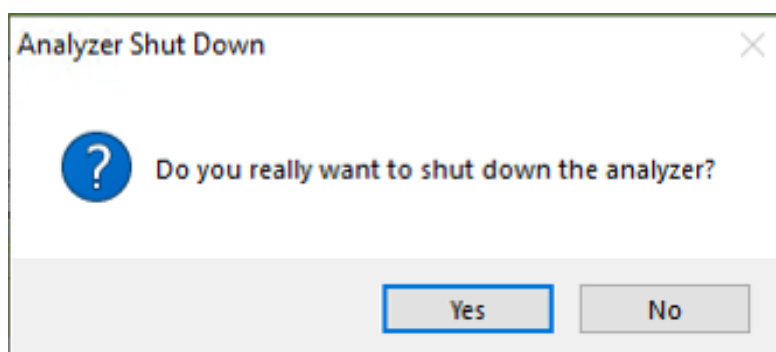

Figure 15: Shutdown Confirmation Pop-Up Dialog
2. A window will pop-up (Figure 15) prompting the user to confirm the shutdown. Once confirmed, the analyzer software and hardware will turn off.